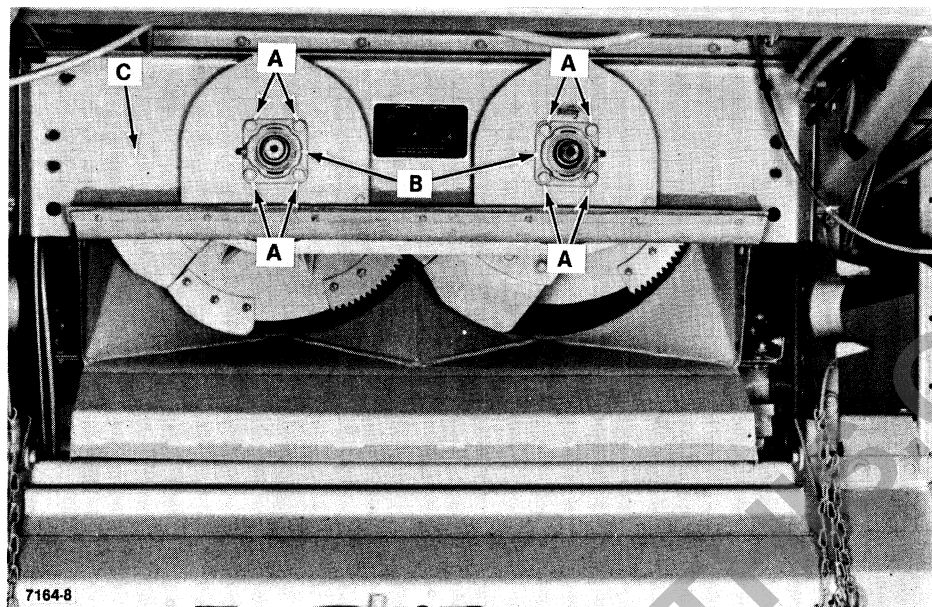

FIGURE 8A-2
5. Remove 1/2" hardware, A, Figure 8A-2, and remove bearing housings, B.